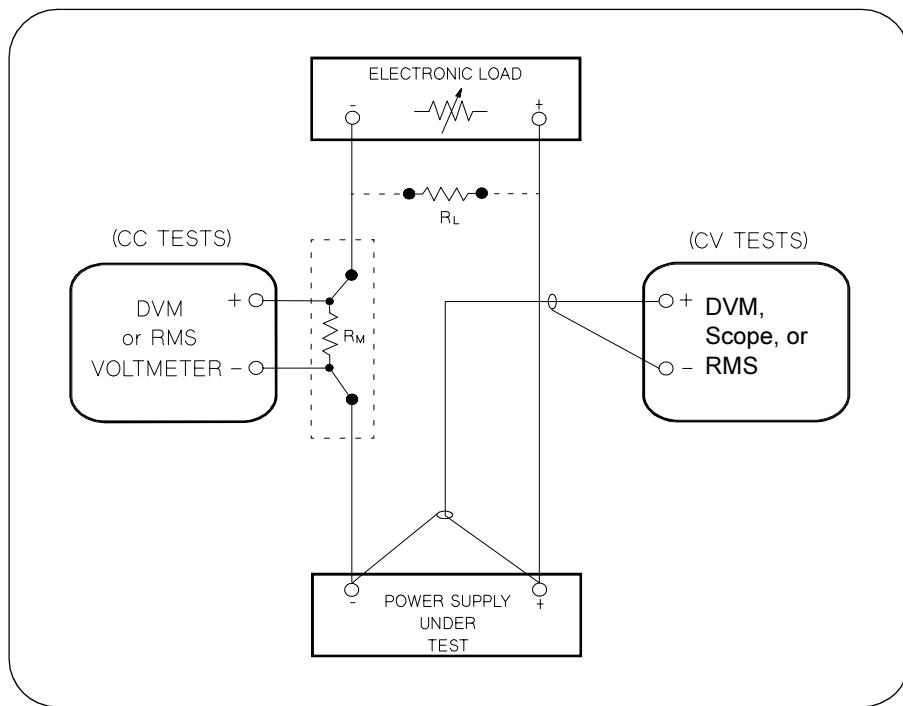

Figure A-1 Performance Verification Test Setup
Most tests are performed at the front terminals as shown in Figure A-1. Measure the dc voltage directly at the (+) and (-) terminals on the front panel.
To eliminate output current measurement error caused by the voltage drops in the leads and connections, connect the current monitoring resistor between the (-) output terminal and the load as a four-terminal device. Connect the current-monitoring leads inside the load-lead connections directly at the monitoring points on the resistor element (see R_M in Figure A-1).
- 1 Turn off the power supply and connect a digital voltmeter between the (+) and (-) terminals of the output to be tested as shown in Figure A-1.
- 1 Turn off the power supply and connect a digital voltmeter between the (+) and (-) terminals of the output as shown in Figure A-1.
- 4 Operate the electronic load in open mode (input off). Record the output voltage reading on the digital voltmeter again. The difference between the digital voltmeter readings in steps (3) and (4) is the CV load regulation. The difference of the readings should be within the limit of (5 mV)* or (9 mV)**.
- 6 Adjust the transformer to high line voltage (127 Vac for nominal 115 Vac, 110 Vac for nominal 100 Vac, or 253 Vac for nominal 230 Vac). Record the voltage reading on the digital voltmeter. The difference between the digital voltmeter readings in steps (5) and (6) is the CV line regulation. The difference of the readings should be within the limit of (5 mV)* or (9 mV)**.
- 1 Turn off the power supply and connect the output to be tested as shown in Figure A-1 to an oscilloscope (ac coupled) between (+) and (-) terminals. Set the oscilloscope to AC mode and bandwidth limit to 20 MHz. Connect a resistive load (13.5Ω)[‡] to the terminal at (B) as shown above.
- 1 Turn off the power supply and connect the output to be tested as shown in Figure A-1 with an oscilloscope. Operate the electronic load in constant current mode.
- 1 Turn off the power supply and connect a $0.01\ \Omega$ current monitoring resistor (R_{M1}) across the output to be tested and a digital voltmeter across the current monitoring resistor (R_{M1}) as shown in Figure A-1.